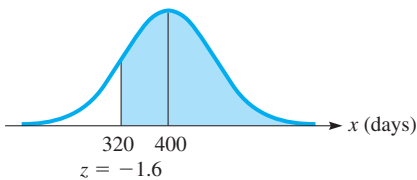

Fig. 22.13
- (b) To determine the number of batteries that will last more than 320 days, we first find the z -score for $x = 320$. It is $z = (320 - 400)/50 = -1.6$. This means we want the total area to the right of $z = -1.6$. In this case, we add the area for $z = 1.6$ to the total area to the right of the mean. Since the total area under the curve is 1.0000, the total area on either side of the mean is 0.5000. Therefore, the area to the right of $z = -1.6$ is $0.4452 + 0.5000 = 0.9452$. See Fig. 22.13. This means that $0.9452 \times 5000 = 4726$ batteries are expected to last more than 320 days.